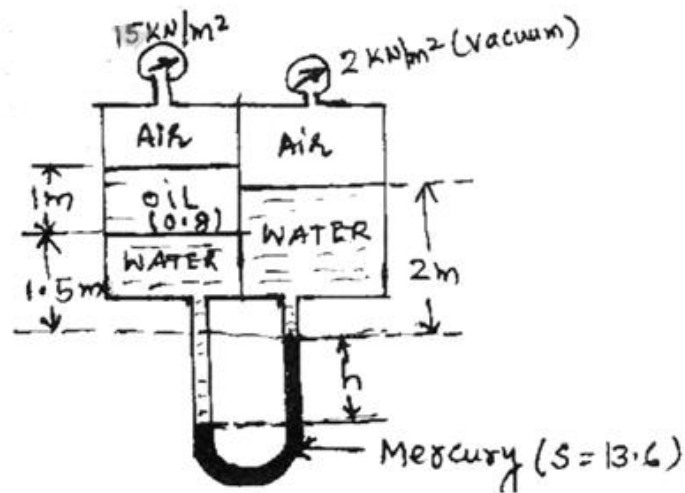

Fig. Q2 (c)
**Q. 5** Find manometer reading 'h' for the Fig.Q2 (c) shown below: (Dec2013)